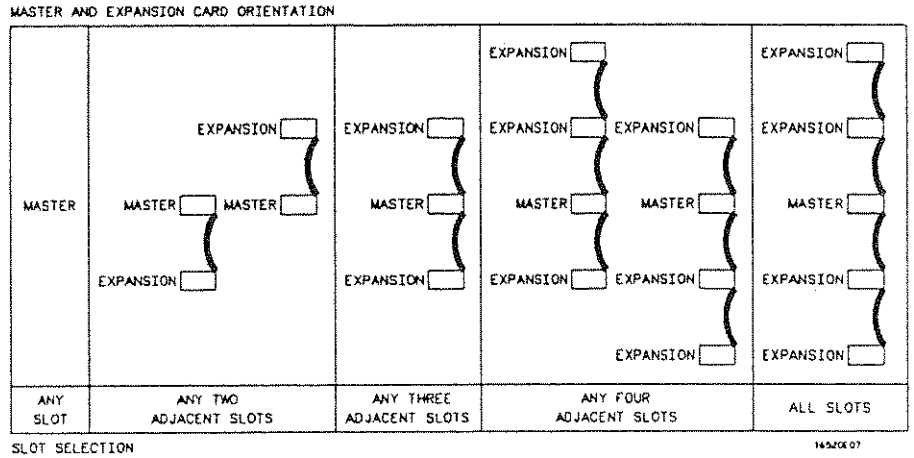

Figure B-1. Installation Guide
- Use figure B-1 to plan the module configuration and select the correct cable.